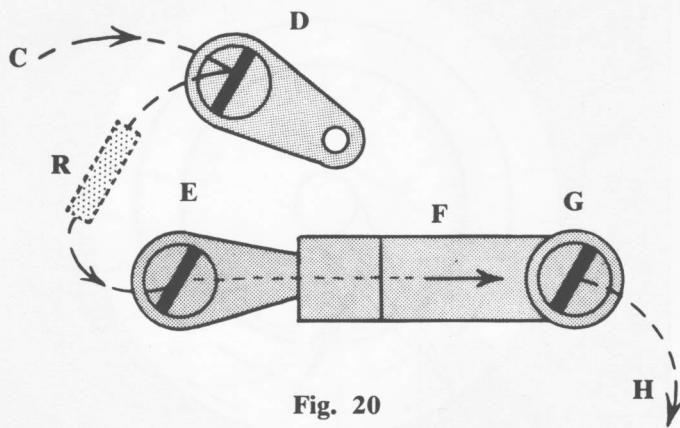

Fig. 20
The purpose of starting with a low sensitivity position is to prevent possible damage to the meter. Fig. 20 shows the switch from the top of the computer box. The wires and resistor (R) are shown in dotted lines because they are underneath the box. Fig. 21 shows the position of the switch arm when it is in contact with the low sensitivity terminal (E). The current (shown by arrows) then flows from C to D, through R to E, across the switch arm F and out through G and H.